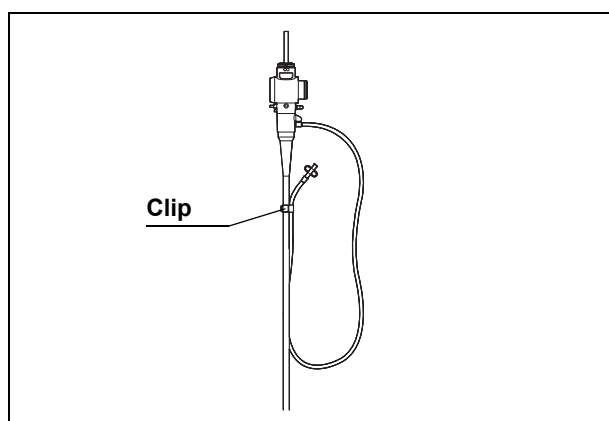

Figure 4.4
1. When carrying the endoscope with the auxiliary water tube connected to the auxiliary water inlet, attach the clip of the auxiliary water tube to the universal cord (for endoscopes with auxiliary water feeding only, see Figure 4.4).